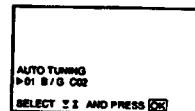

Fig. 6
- 3 Select "AUTO TUNING" with $\Delta+$ or $\nabla-$ and press OK. The AUTO TUNING menu appears. (See Fig. 6.)